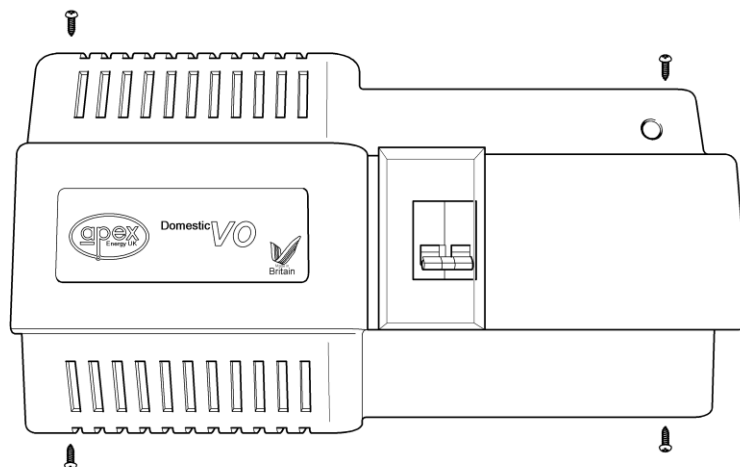

Figure 7: Cover securing screw locations
- f. If 25mm cable has been used, cut the "notch" in the cover at the cable location. Replace the cover and secure with the four screws; refer to Figure 7.